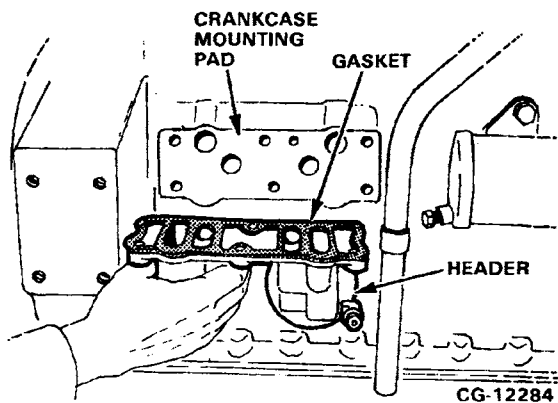

Figure 9.20. Remove Filter Header and Gasket
4. Remove the filter header and gasket from the crankcase. Refer to Figure 9.20.